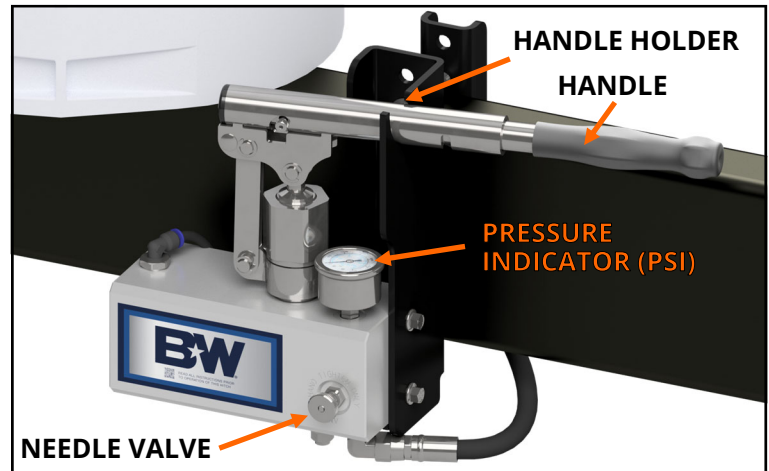

FIGURE H2: View of the driver side of A-frame
5. **Add pressure to the hydraulic cylinder.** Close the needle valve. Pull the pump handle out of the handle holder and push in then twist counter clockwise to extend it. Pump the handle of the hydraulic pump to restore load from the rear tires to the front tires, **see Figure H2.** Decrease the height of the front wheel well until it has been lowered to the target measurement.